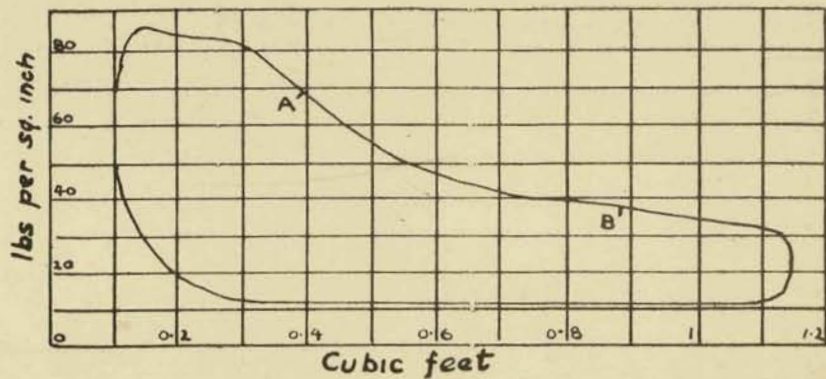

Fig. 1
1. The indicator diagram from a steam engine, $12\frac{1}{2}$ " bore, 15" stroke, is shown in Fig. 1. The connecting rod is 3 ft. long. Find the turning moment on the crankshaft when the crank angle is 40° from the inner dead centre. Calculate a suitable size for a shaft to transmit this torque. Allowable stress 8,000 lbs. per sq. inch.
11. There was 0.11 lb. of steam in the cylinder during the expansion shown on the diagram, Fig. 1. Find the dryness fraction at the points A and B. Did the steam take heat from or give heat to the cylinder walls during this part of the stroke?